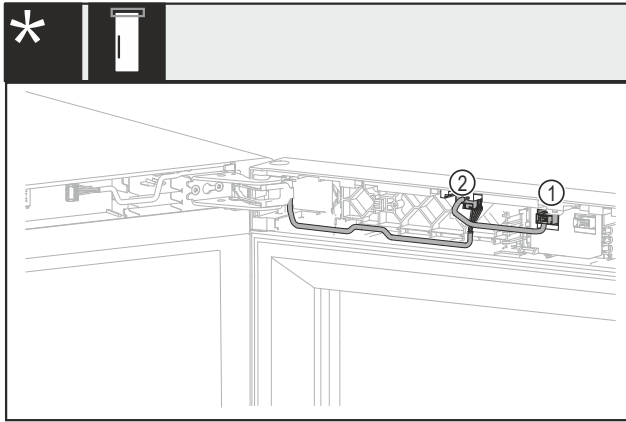

Fig. 14 Without lock or with mechanical lock
- ▶ Pull out the plug. Fig. 14 (1)
- ▶ Pull out the plug. Fig. 14 (2)